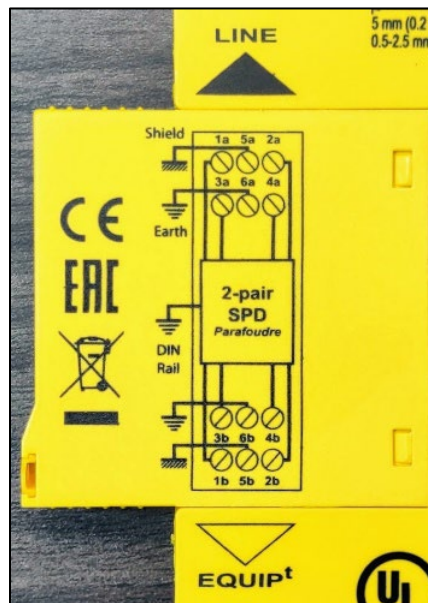

Figure 4 Wiring Diagram on the RS422 SPD
- a. On the EQUIP end, insert the black conductor into the terminal with the shield symbol (5b), the white conductor into the 1b terminal, the green conductor into the 2b terminal, the orange conductor into the 4b terminal, and the red conductor into the 3b terminal, as seen in Figure 4.
- c. Insert the ground signal into the terminal with the shield symbol (5a), the TMU TX+ signal into the 1a terminal, the TMU TX- signal into the 2a terminal, the TMU RX+ signal into the 3a terminal, and the TMU RX- signal into the 4a terminal. See Figure 4 for more information regarding wiring. The table below shows the pinout for a Patton 222 Converter on the TMU side.